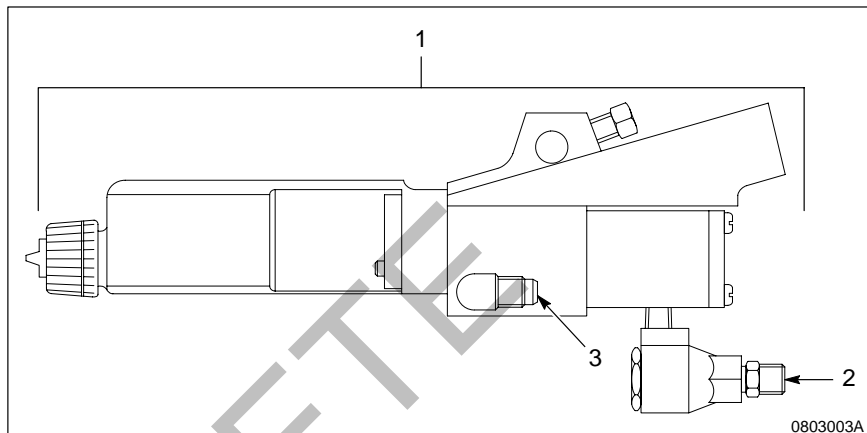

Fig. 3 Model CA-1 operation
See Figure 3. Pressurized coating material, which is heated and filtered, enters the gun (1) at the coating material inlet (3). When air enters the trigger air inlet (2), the gun sprays the coating material and the power supply starts, passing an electrostatic charge to the coating material. When the trigger releases in a non-circulating system, the gun stops spraying the coating material. When the trigger releases in a circulating system, the coating material passes through the gun, through a circulation valve, and back to the pump. The operator can also drain the coating into a waste bucket.